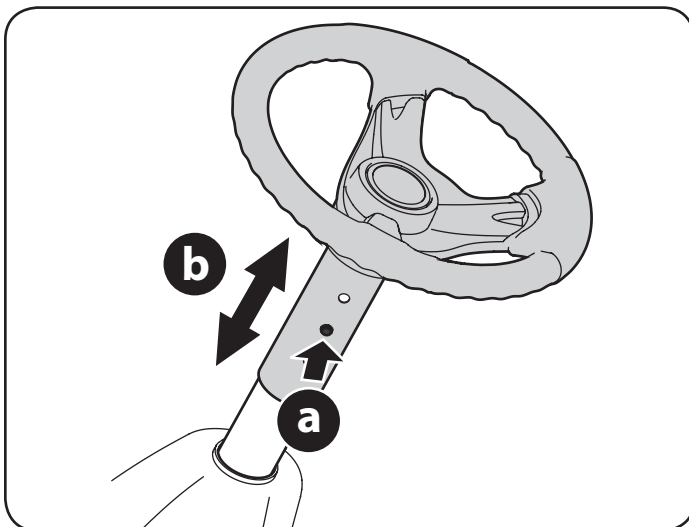

Figure 9
2. Push the button (a) on the steering column and raise or lower the steering wheel (b) to the desired position. See Figure 9.